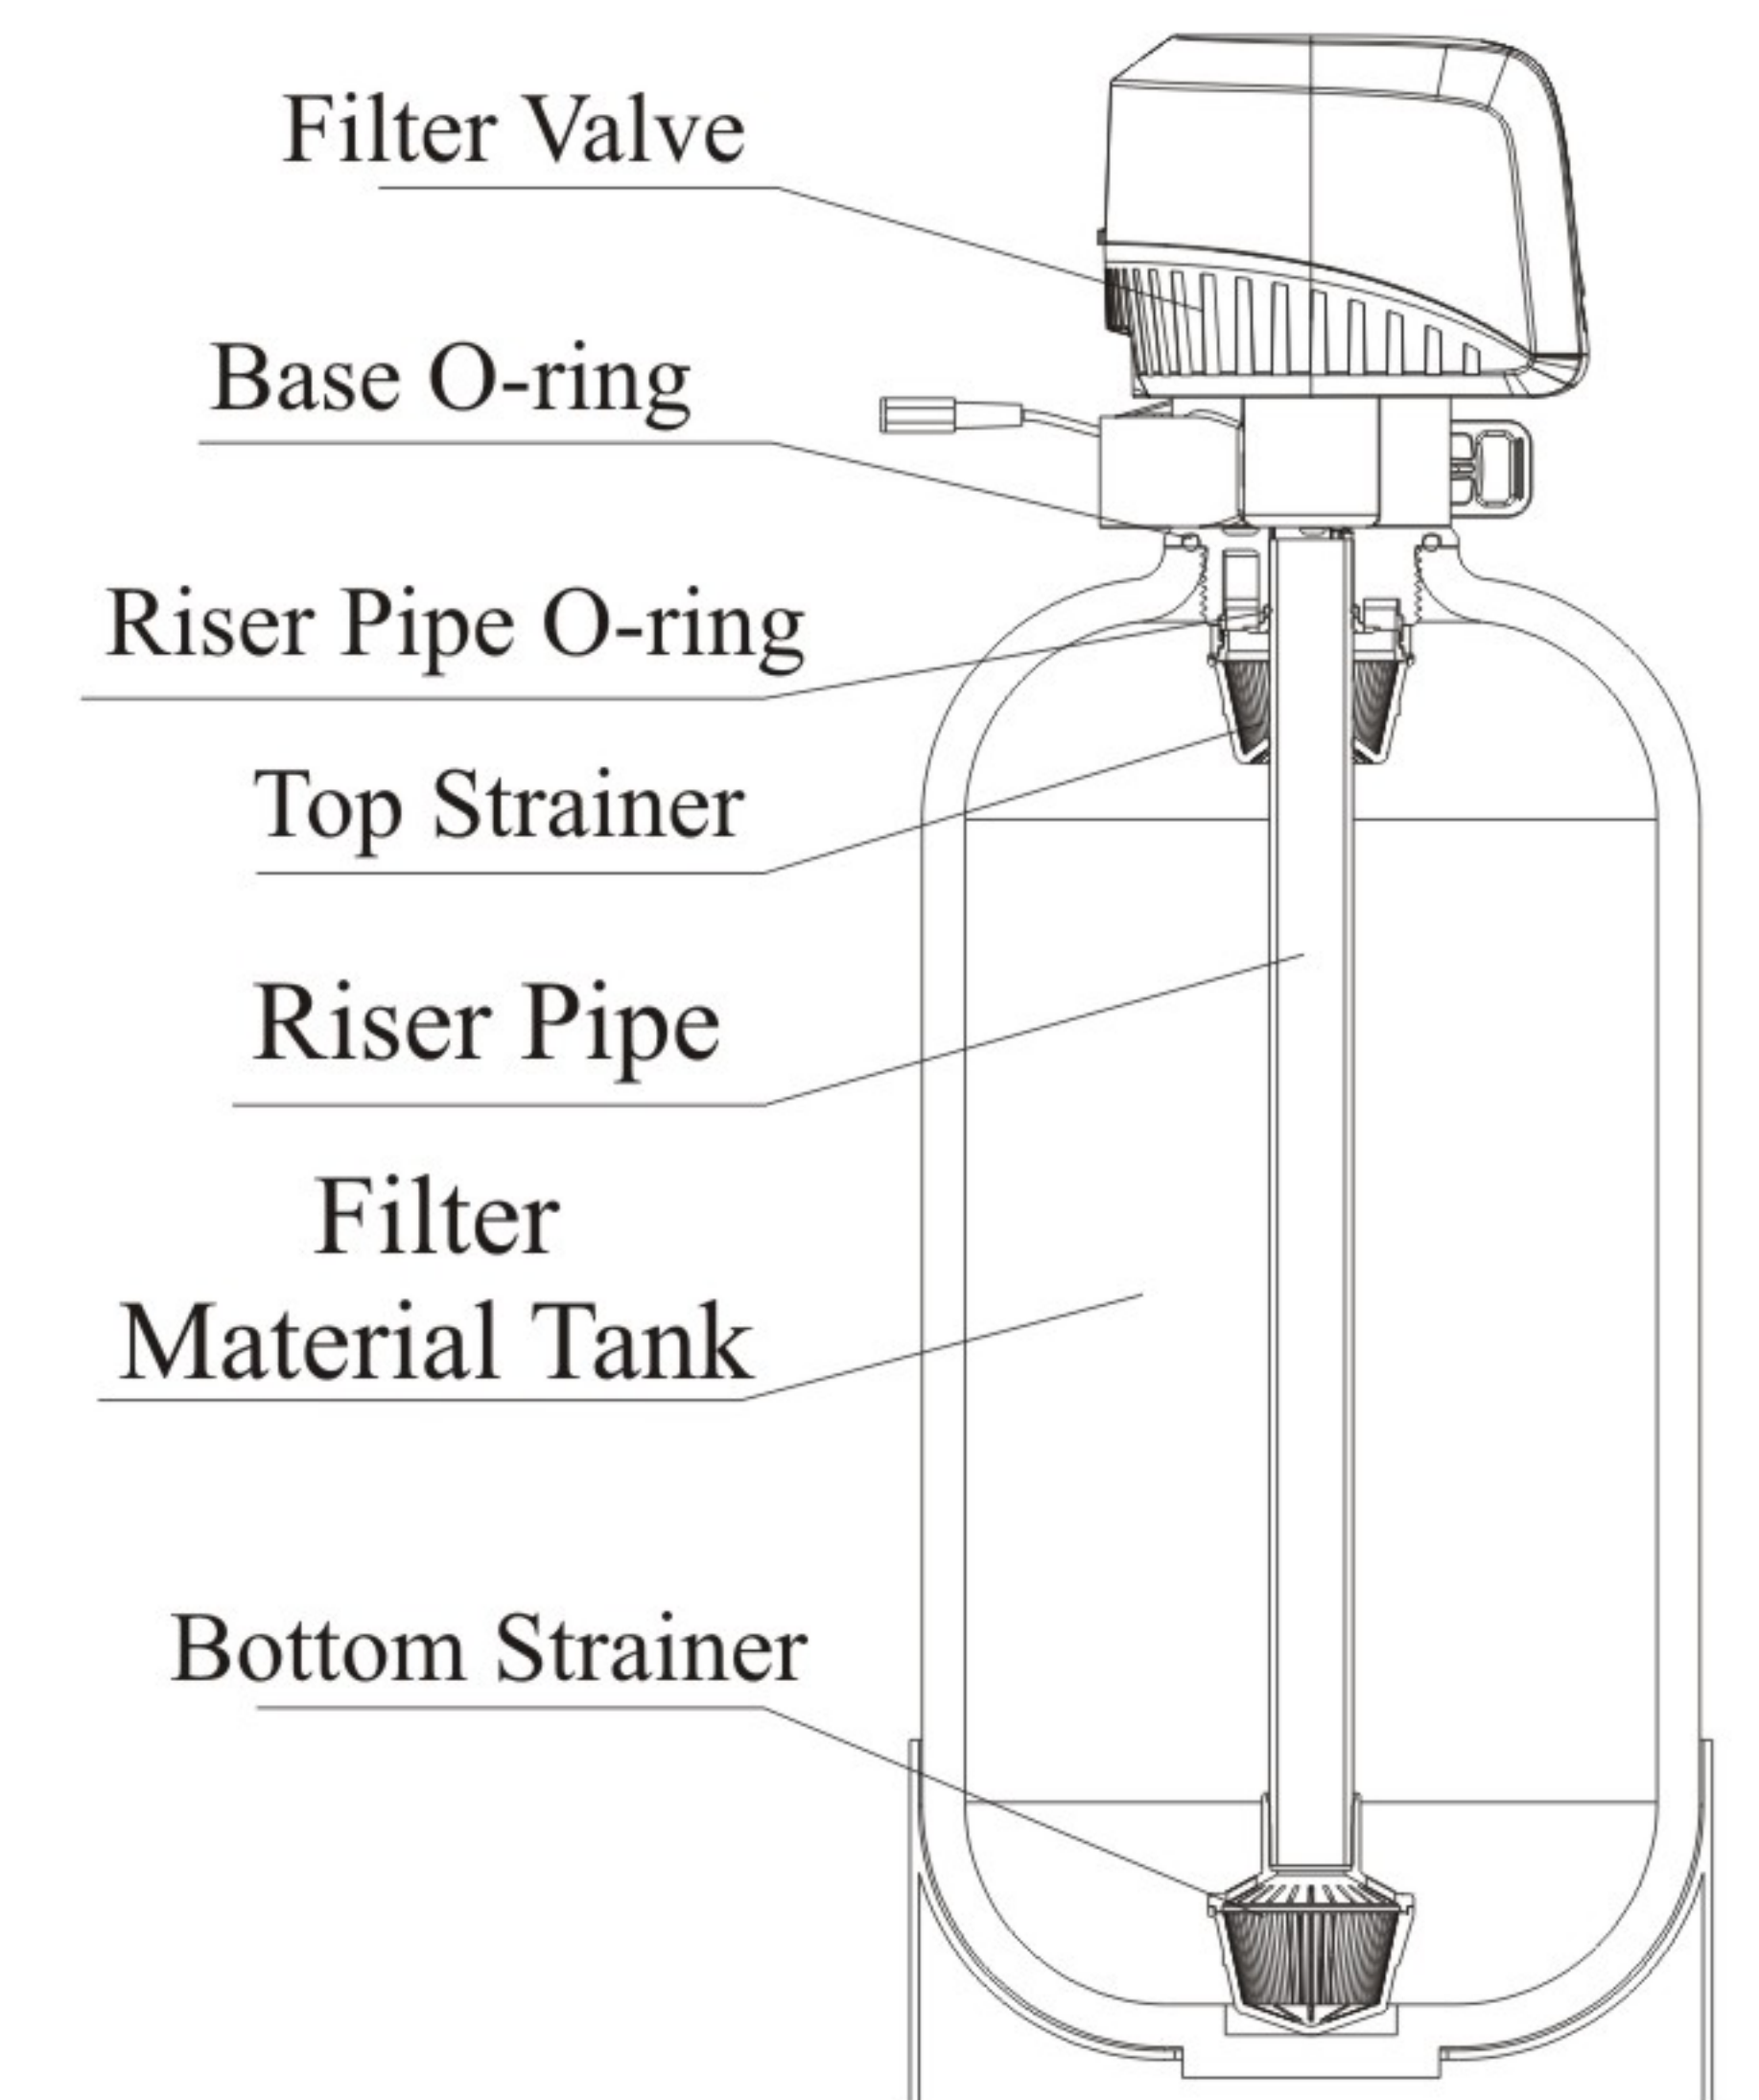

Figure 1-B
- ①.The control valve should be located closely to drain.
- ②.Ensure the unit is installed in enough space for operating and maintenance.
- ③.The unit should be kept away from the heater, and exposed outdoor. Sunshine or rain will cause the system damage.
- ④.Please avoid installing the system in one acid/alkaline, magnetic or strong vibration circumstance, because above factors will cause the system disorder.
- ⑤.Do not install the filter, drain pipeline in circumstance which temperature may drop below 4℃ or above 50℃.
- ⑥.Install the system in the place where with the minimum loss in case of water leaking.
①.Install control valve
a.As the Figure1-B shows, select the 26.7mm riser pipe, glue the riser pipe to the bottom strainer and put it into the mineral tank, cut off the exceeding pipe out of tank top opening. Plug the riser tube in case of mineral entering.
As Figure 1-C shows, put the sealing ring in the inlet, and whirl the animated connector into the inlet.
As Figure 1-C shows, put the gasket in the outlet and remove the flow meter into the outlet, then insert the probe wire into the flow meter.